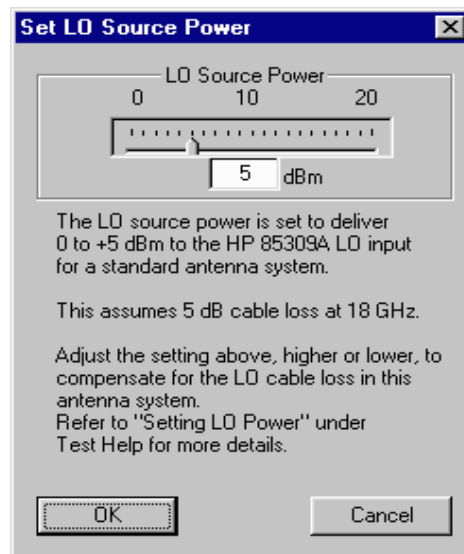

Figure 26 *Setting LO Source Power*
15. **For antenna tests only:** You may be prompted to set the LO power level. See Figure 26. Table 15 describes typical LO source power settings. To determine the correct LO source power setting, follow the steps below: